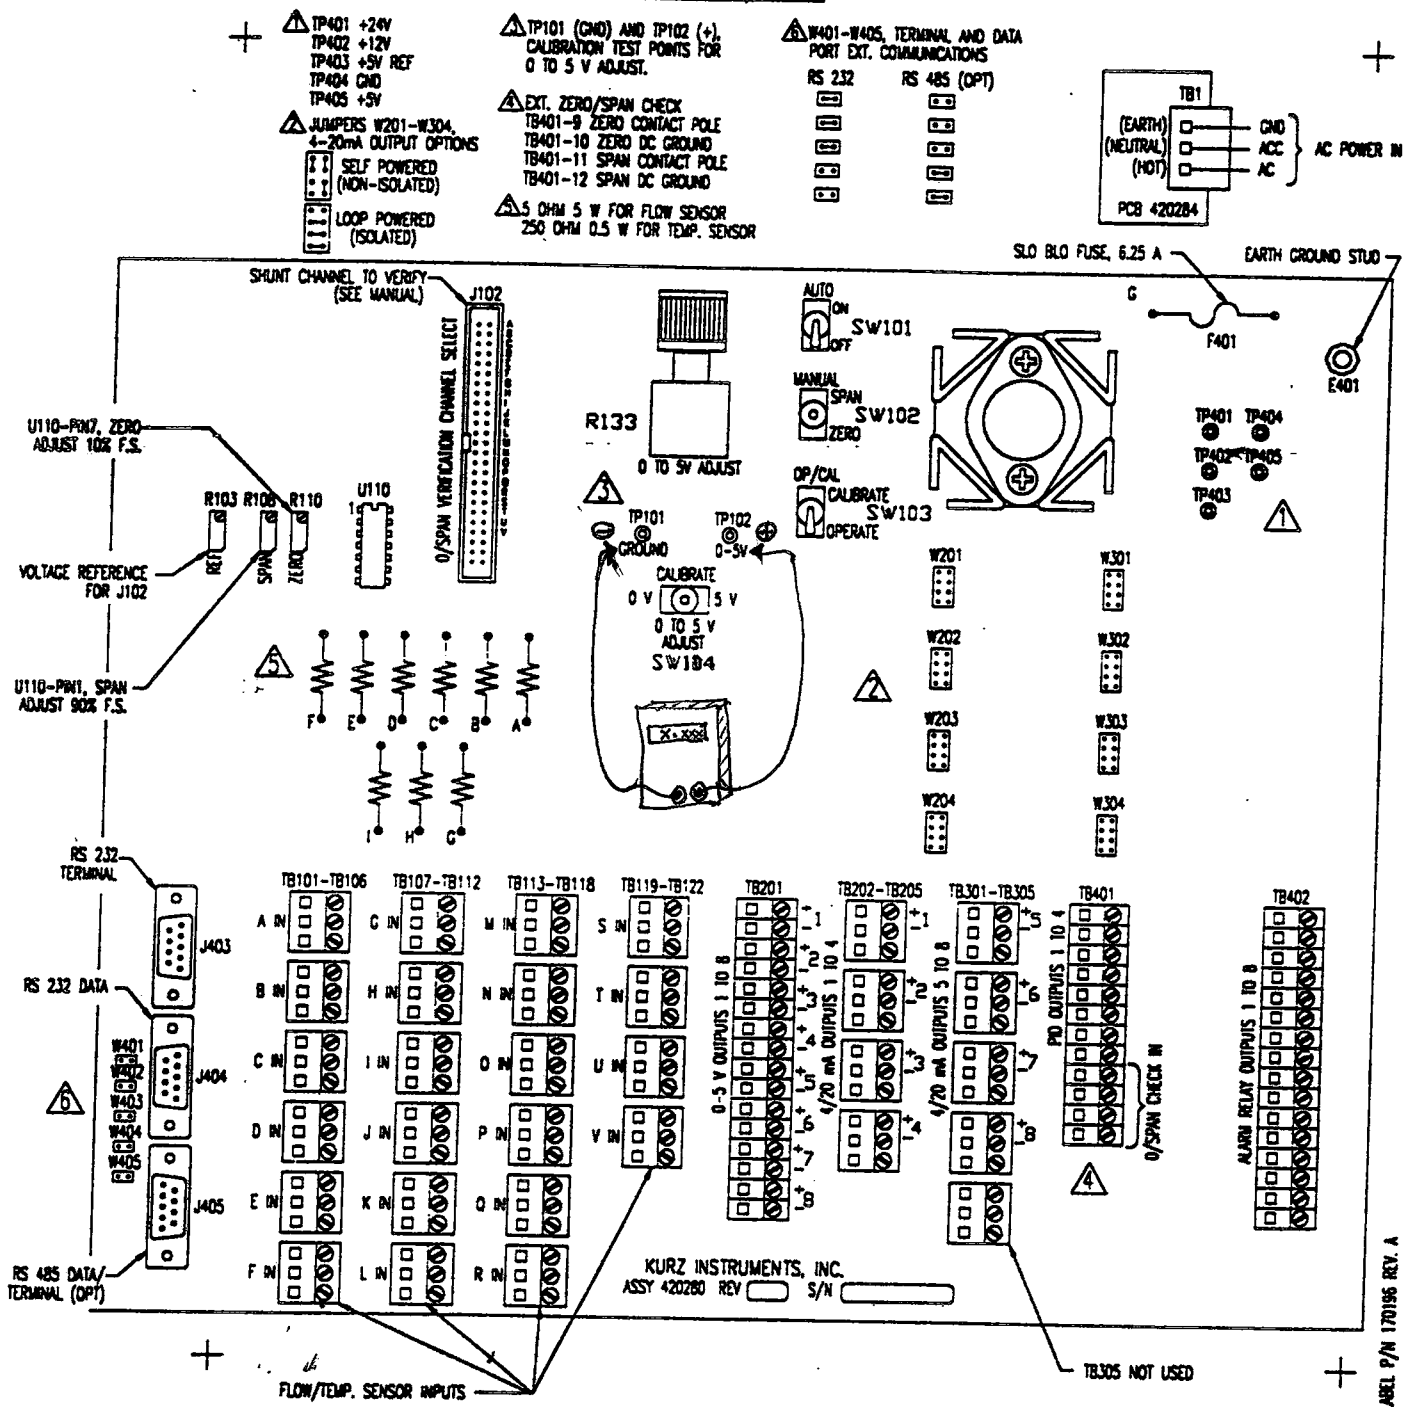

Figure 1. Mother Board, Models 155C-1/E-1/E-RM, Component Location.
Refer to Figure 1 for component location.
3. Press the up (YES) or down (NO) arrow until you see the message "PRESS ENTER FOR OUTPUT CAL" on the front panel LCD.
5. Connect DVM as indicated in the table for 0-5 VDC or 4-20 mA outputs. (See jumper settings Note 2 on Figure 1 for 4-20 mA output configuration.)